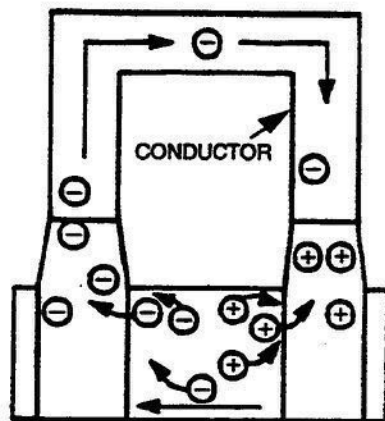

Figure 2-11. Battery connected to a conductor.
**The basic components and symbols of a practical circuit.** You have seen how current flow is present when a conductor is connected between two charged bodies such as the two terminals of a battery shown in figure 2-11. However, the connection shown in the figure is not a practical basic circuit since the two terminals neutralize the battery in a short period of time and render it useless. Thus, some means must be employed to prevent this useless draining of the power source. Any electronic device that offers resistance to current flow may be used.